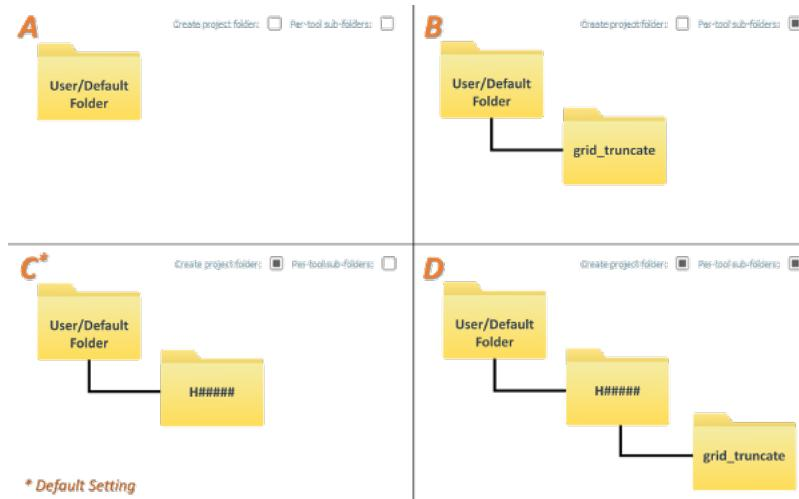

Fig. 2.61: The resulting folder structure based on the four available combinations of output flags.
- No flags set (see Fig. 2.61, pane A). The outputs are stored directly under the default or user-defined location.
- Only the **Per-tool sub-folders** flag set (see Fig. 2.61, pane B). The outputs are stored in a tool-specific sub-folder (in the default or user defined-location).
- Only the **Create project folder** flag set (see Fig. 2.61, pane C). The outputs are stored in a survey folder (in the default or user defined-location). *This is the default setting.*
- Both flags set (see Fig. 2.61, pane D). The outputs are stored in tool-specific sub-folders in a survey folder (in the default or user defined-location).